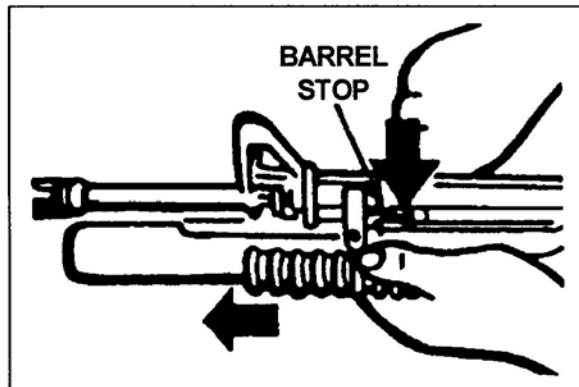

Figure 7. Installing the M203 barrel.
- a. Press the barrel stop. Slide the barrel into the receiver (Figure 7).